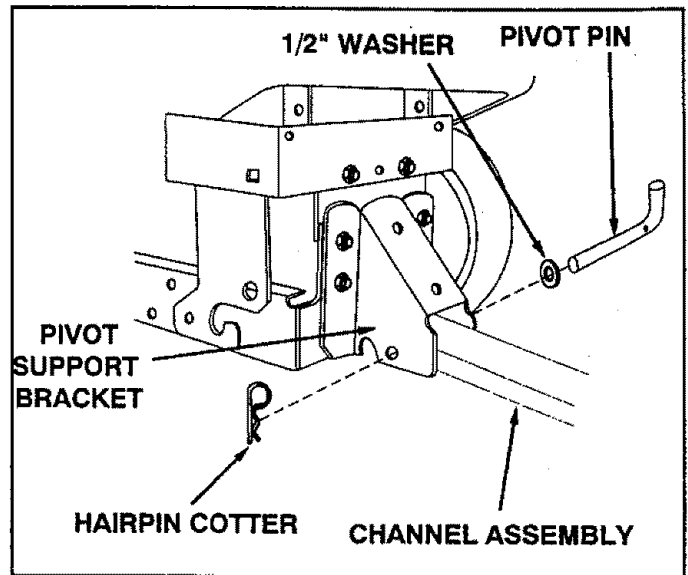

FIGURE 30
- Place the end of the channel assembly into pivot support bracket. Secure with pivot pin, 1/2" washer and one hairpin cotter. See figure 30.